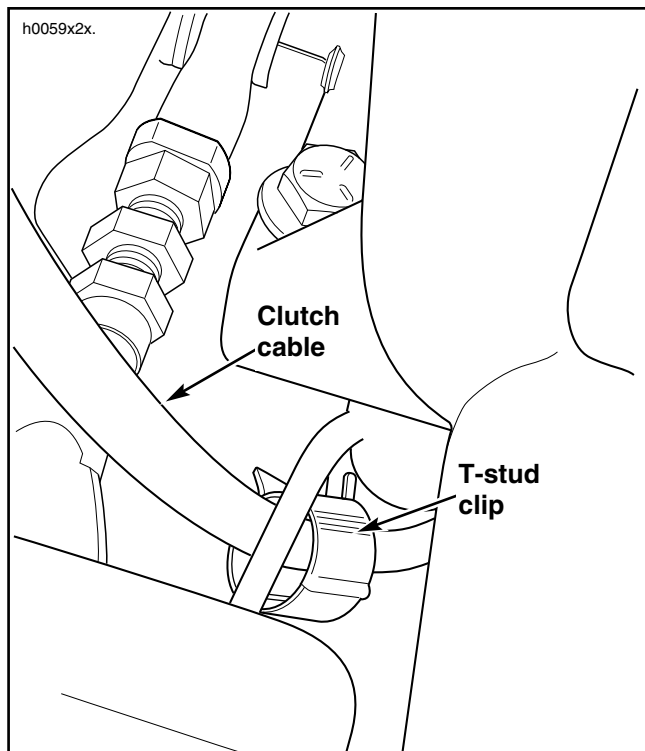

Figure 12. Clutch Cable Attachment (Behind Regulator)
1. See Figure 12. Remove stock t-stud clip that secures stator wires on left end of front engine bracket behind voltage regulator.
2. Capture stator wires and clutch cable in larger clip (item 42 in Service Parts illustration) and install clip on t-stud.